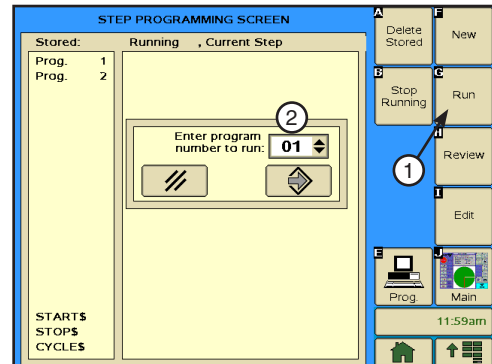

Figure 114-1 1. Run Button
2. Push the **Run** button, choose the program number, and press **Enter**. Refer to Figure 114-1.